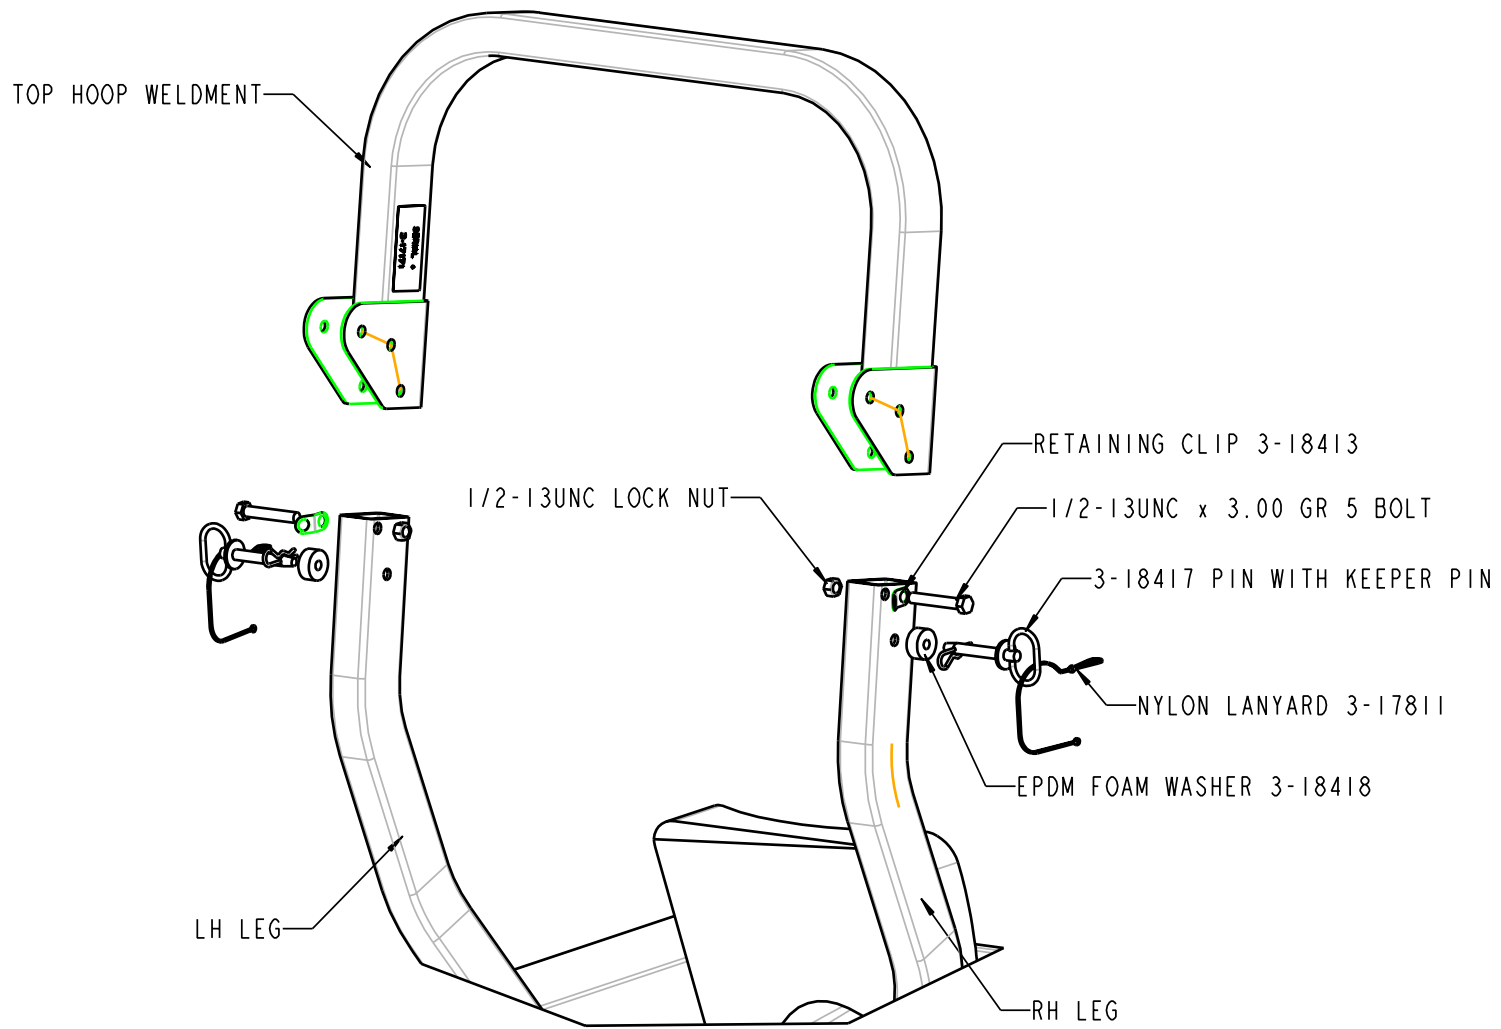

FIGURE 2
Upper Hoop Installation (Refer to Figure 2 for Steps 6-9)
- 6) Install the upper rollbar hoop. Secure each side of hoop with a $\frac{1}{2}$ -13unc x 3.00 grade 5 bolt, a pin retainer washer and a $\frac{1}{2}$ -13unc grade 5 center-lock nut into the upper mount hole. Tighten only until the nut contacts the bracket. Do not over tighten. Hoop should pivot freely, up and down. See Figure 2.
- 7) Install (1) EPDM washer onto each of the hitch pins. Position the top hoop into the up-right location and install the hitch pins. See Figure 2.
- 8) Attach (1) plastic lanyard to the handle of each hitch pin. Insert one end of the lanyard through the retaining washer and attach the spring pin to the eye in the lanyard. Install the spring pins into the hitch pins.